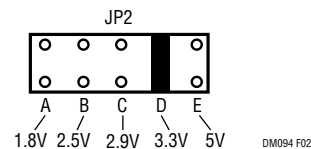

Figure 2. Output Voltage Selection (JP2) (3.3V Position Shown)
7. Set the desired output voltage with jumper JP2 shown in Figure 2 and Table 1.